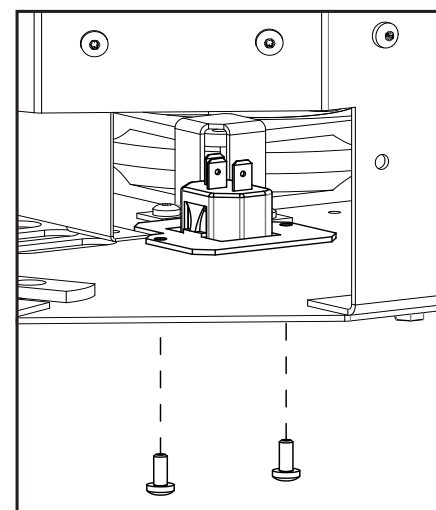

Figure 85: Electrical Plug Connection
5. Attach the adapter plate through the firebox reusing the two (2) T20 screws (see Figure 85).